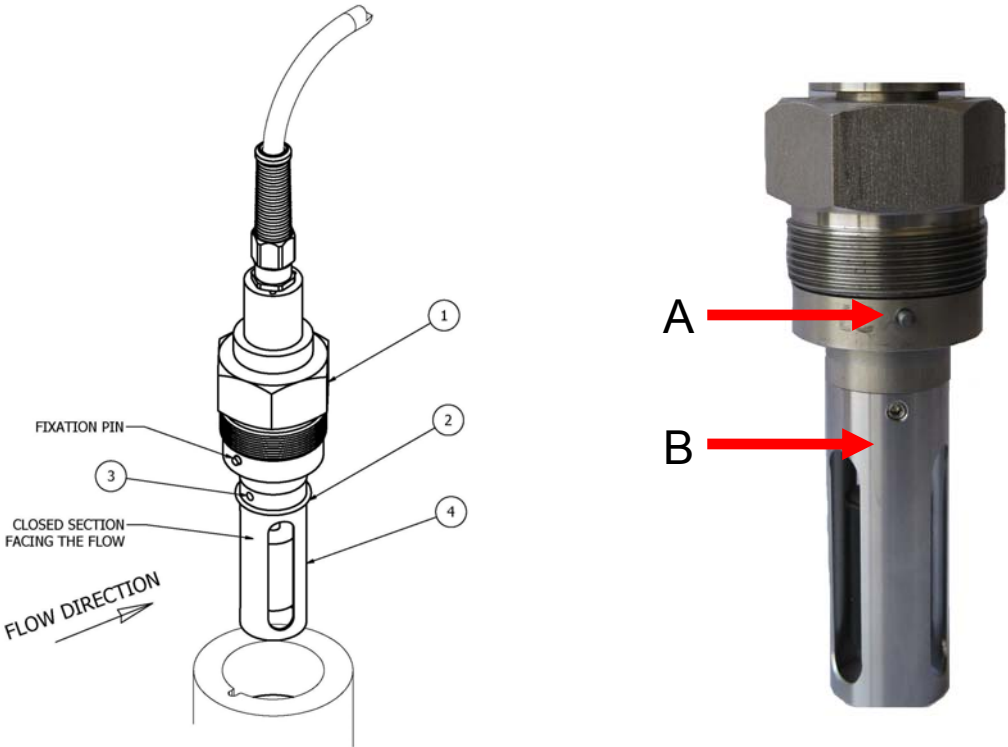

Figure 8 *ViscoSense*®3 sensor assembly
1. Remove dust caps from sensor housing and install housing stress-free, with shut-off valves and bypass valve in the fuel piping as illustrated in figure 6. Take care that the flow direction is in accordance with the indication on the housing (inlet, outlet and arrow) as illustrated in figure 8. Support inlet and outlet piping sufficiently.
4. Install sensor carefully in housing with the closed surface facing the flow, illustrated in figure 8.
Make sure the flow tube closed surface is pointing towards the inlet of the sensor housing, see figure 8.